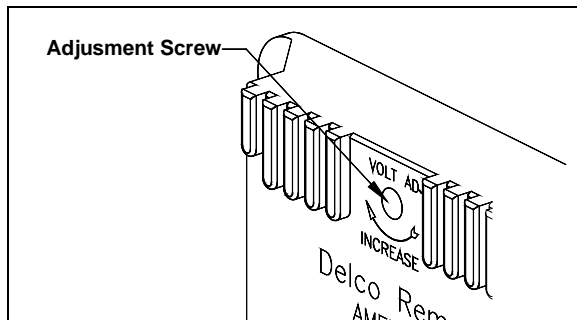

FIGURE 35: ADJUSTING REGULATOR VOLTAGE SETTING 06418
4. If not, the desired setting can be obtained by removing the plug from the voltage regulator cover and slightly turning the adjusting screw inside the regulator. Turn the adjusting screw clockwise to increase the voltage setting or counterclockwise to decrease it. See figure 35 for details.
Resistor R2 = Turn voltage adjustment screw (identified in figure 35) with ohmmeter connecting each way. Reading should change as slotted screw is turned. If not, replace R2.